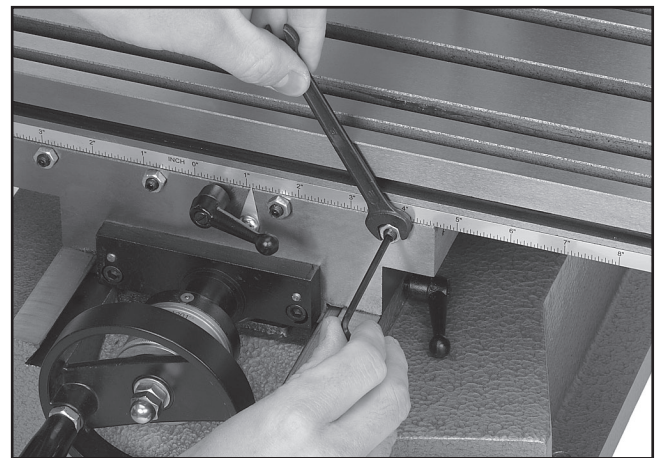

Figure 3. X-axis gib adjustment.
2. Loosen the gib screw lock nuts (**Figure 3**), and adjust the X-axis table gib screws, so the table moves with slight resistance as felt in the handwheel.